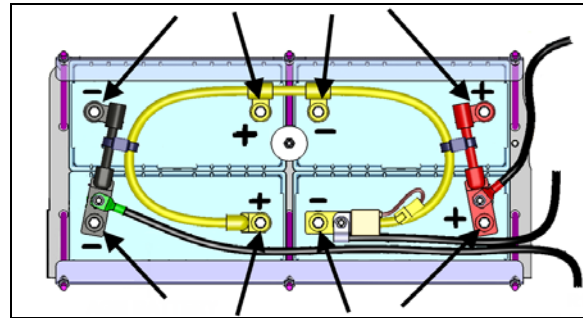

Figure 18: CONNECTIONS REMOVAL
- 3.8 Loosen the (8) battery connection nuts using 14mm socket and wrench (Figure 18).